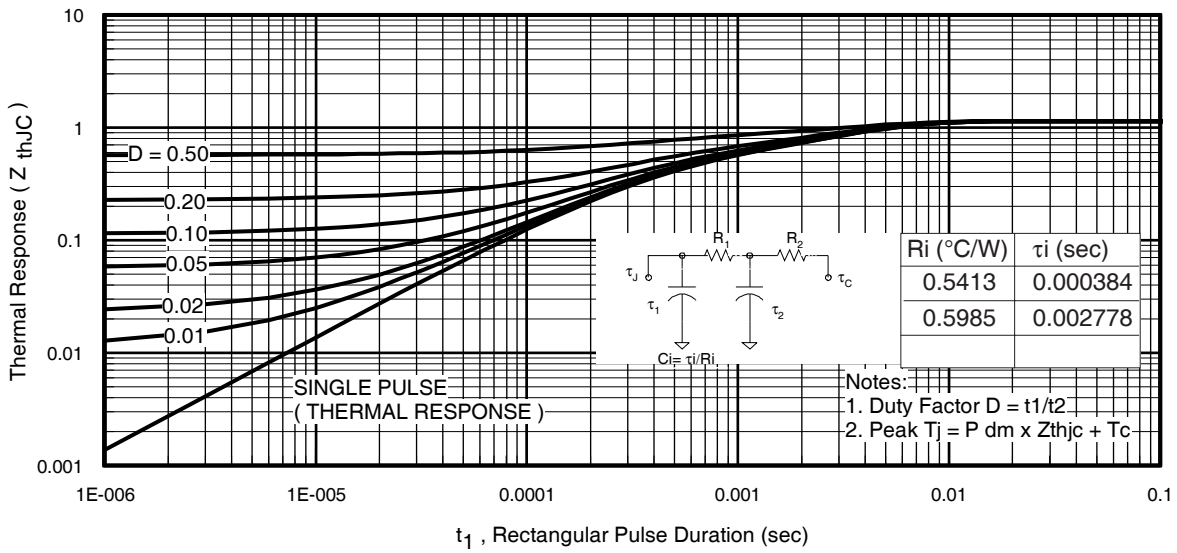

Fig 11. Maximum Effective Transient Thermal Impedance, Junction-to-Case
- ① Repetitive rating; pulse width limited by max. junction temperature. (See fig. 11).
- ② Limited by T_{Jmax}; starting T_J = 25°C, L = 0.09mH
$Z_{thJC}(D, t_{av})$ = Transient thermal resistance, see figure 11)